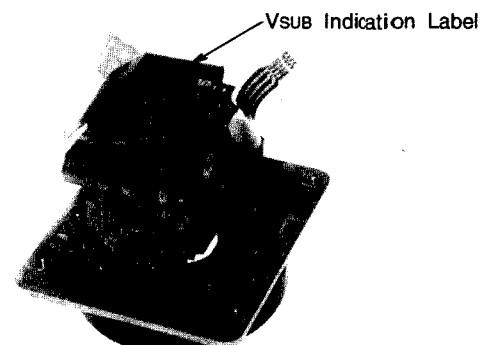

Fig. 5-1-2
- Referring to Fig. 5-1-2, check each VSUB voltage on the Indication Label of the Head Optical Ass'y.